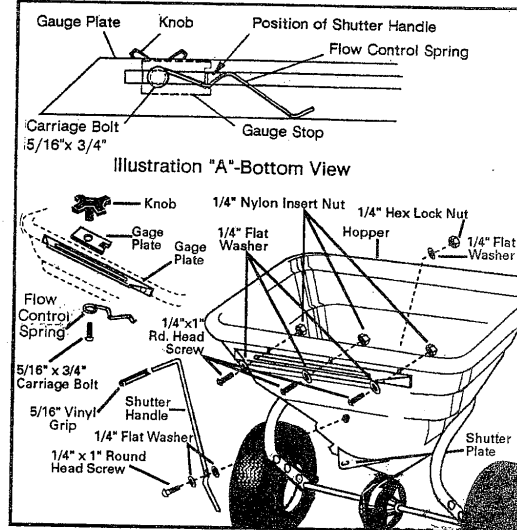

FIG. 7.
Refer to FIG. 7.
- Secure with 5/16"x 3/4" carriage bolt, flow control spring (under carriage bolt head) as shown in Fig. 7-Illustration "A". Insert from under gage plate, up through gage stop, securing with plastic knob. Slide to the left and tighten.
- The control lever operates the flow control shutter. The flow control decal (Fig. 7) is marked OFF to 10. The position selected determines the amount of material to be broadcast. The higher the number, the heavier the application of material.
NOTE: Close shutter before filling hopper. Keep the plastic knob (Fig. 7) and gage stop tight at all times.